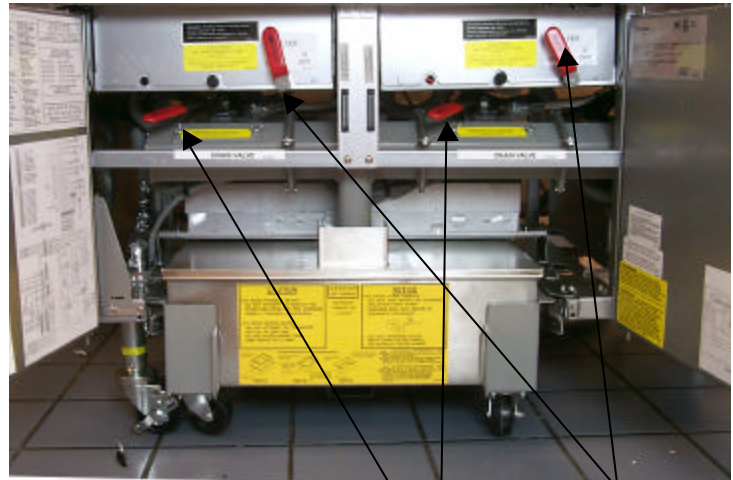

Fig 12-14
14. With the oil at operating temperature and the fryer off, open valve of vat to be drained. Caution: the oil is at or near operating temperature during filtering. **Fig: 12-14, 16**